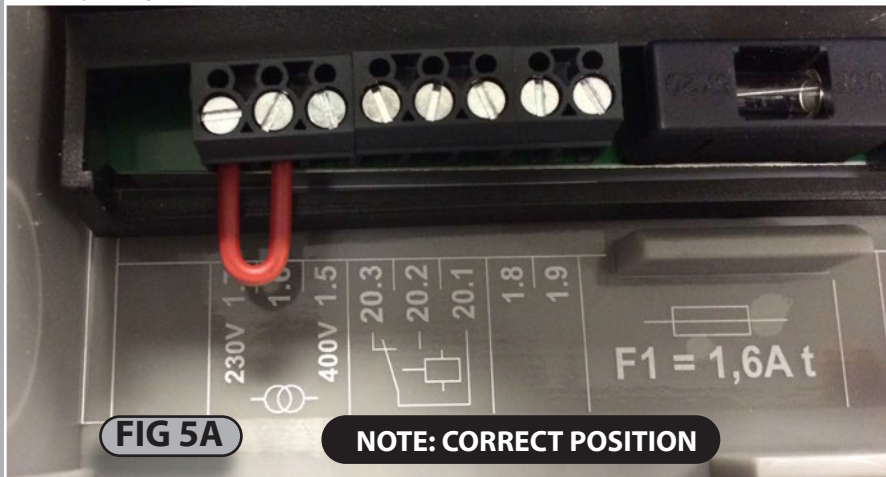

FIG 5A
- Locate the mains supply jumper on the control panel as shown in FIG 5A.